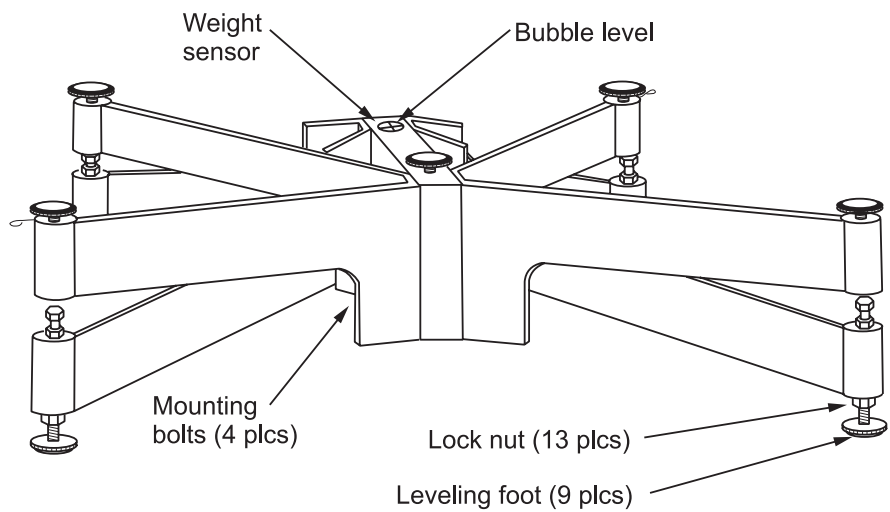
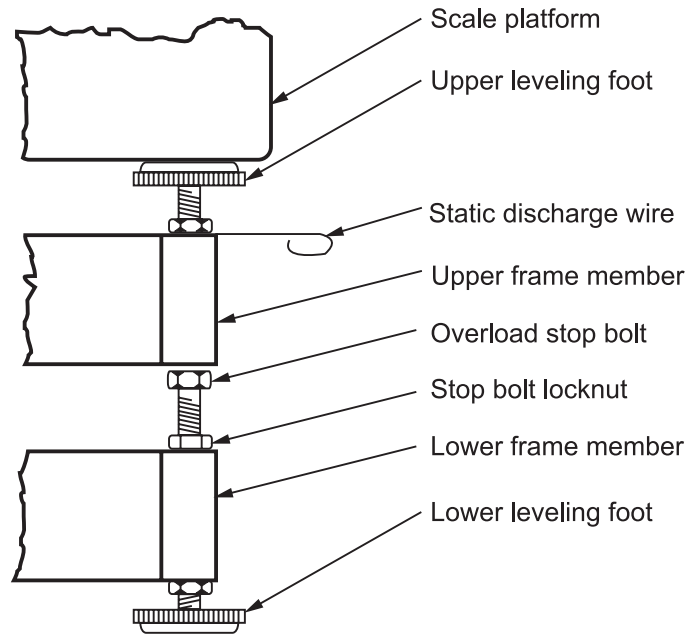
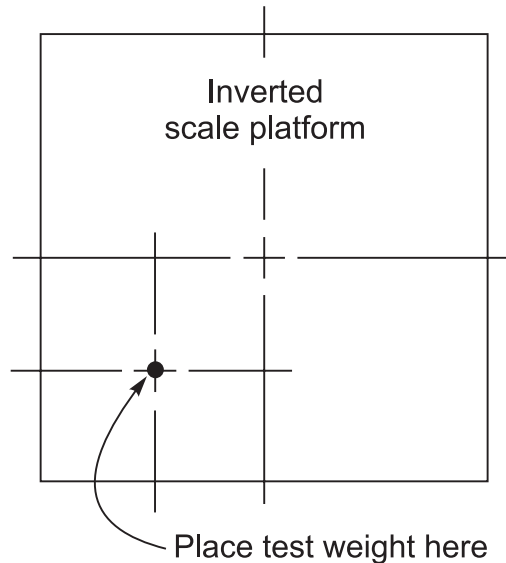

Figure 1
Figure 2
Figure 3
Place the scale on a flat, rigid, vibration-free surface. For the diamond series or torsion series bench scales, lift the scale platform straight up, removing it from the frame. Figure 1 shows the diamond series scale. Figure 2 shows the torsion series bench scale. See Figure 3 for the 3600 series and Figure 4 for the 3700 series. Loosen each leveling-foot lock nut, as required. Adjust the leveling feet until the bubble level shows that the frame is level. All leveling feet must be in firm contact with the mounting surface. Make sure that the weight sensor signal cable is routed properly and will not interfere with platform movement. Tighten each leveling foot lock nut as required.
The overload stop bolts must be readjusted if either the weight sensor or any of the frame members are replaced. To adjust the overload stop bolts, refer to Figure 2 and proceed as follows:
2. Refer to Figure 3 and place a test weight 102% of capacity in the center of one quadrant of the inverted platform. The weight indicator should display a reading above capacity.
3. Refer to Figure 2 and loosen the stop bolt lock nut corresponding to the quadrant supporting the test weight. Adjust the overload stop bolt so that it contacts the upper frame member and the weight indicator reads less than the applied test weight. Tighten the stop bolt lock nut.